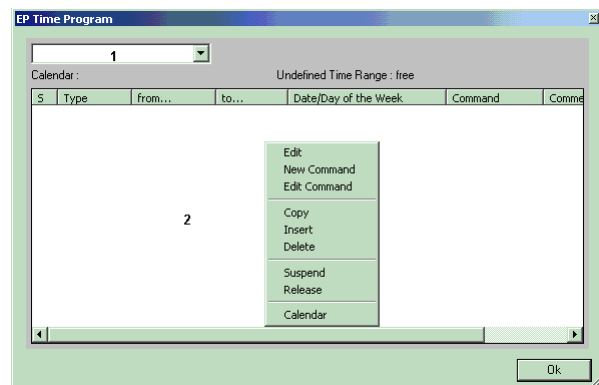
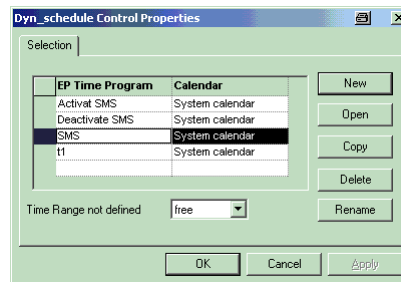

Fig. 7-22 The output time profile
Fig. 7-26
With the EP time programme, you can enable and disable an output channel in accordance with a time programme. You can enable a printer at business hours only or you can redirect all messages to a home fax number at weekends, see Fig. 7-22.
The chosen mode is shown in field ⑤, see Fig. 7-22. A selected time programme with a parameterised command line is shown in the background window on activating the 'Show' function. This programme can now be copied with the command line. The copy appears in the chosen line of the list Fig. 7-26. An EP time programme can also be amended or deleted using the relevant button.